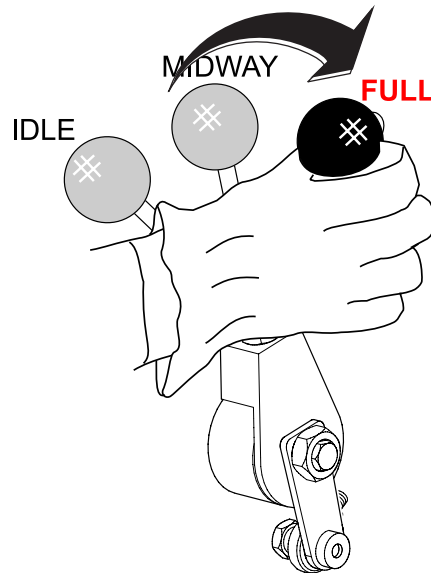

Figure 16. Engine Throttle Lever (Full Speed)
1. With the engine running, move the engine throttle lever to the **FULL** speed position. See Figure 16.